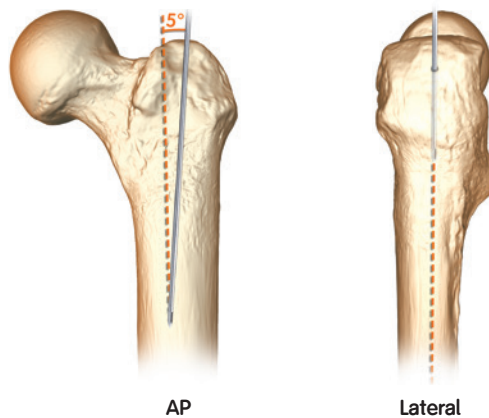

Figure 5
**Note:** The optimal entry point for the TAN° is located lateral to the tip of the greater trochanter, approximately 5° from the anatomical axis in the AP and in line with the intramedullary canal in the lateral view (Figure 5).